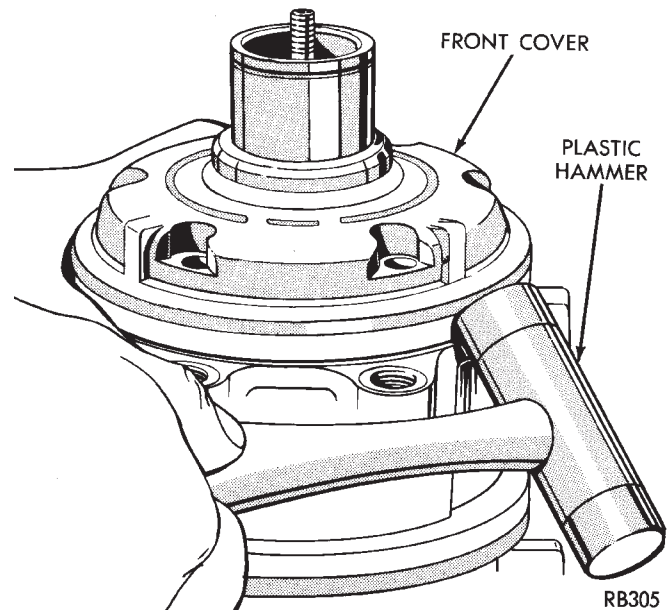

Fig. 8 Removing Front Cover
(5) Remove front cover by tapping on the outside diameter of the cover with a plastic hammer (Fig. 8).